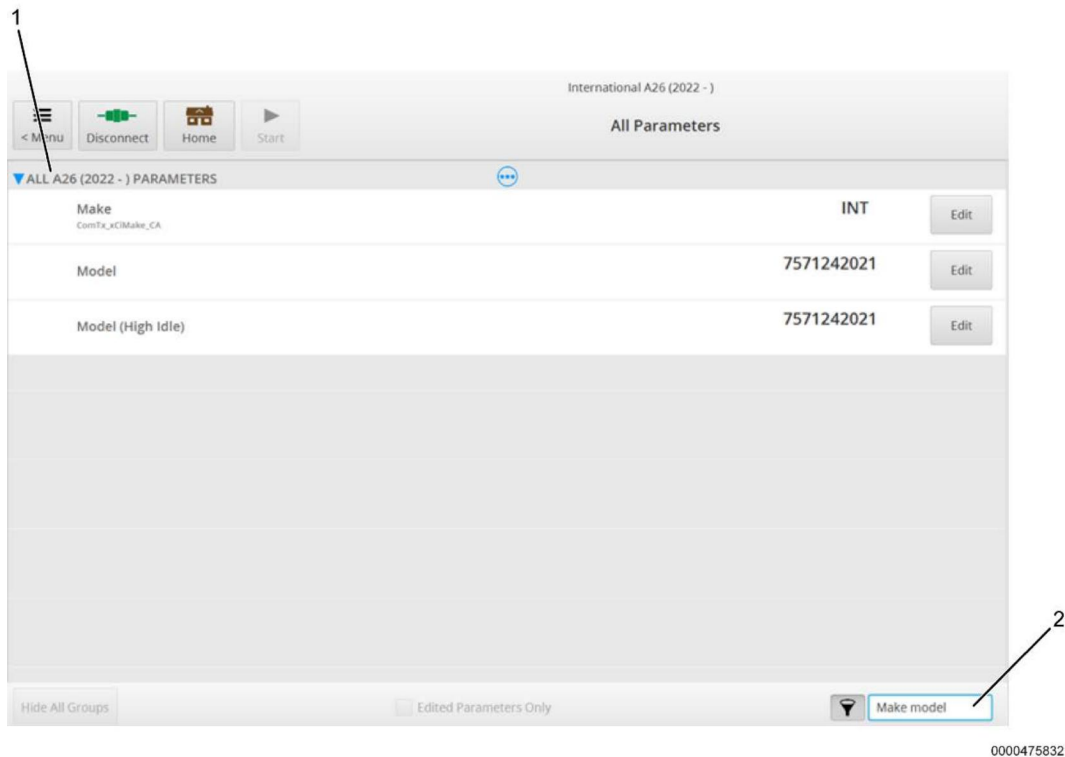

Figure 4. Correct Make and Model Parameter
23. Select **ALL PARAMETERS** tab (Figure 4, Item 1) under **MENU** and type make model into **Search / Filter** box (Figure 4, Item 2) to confirm parameter change has been successfully updated.